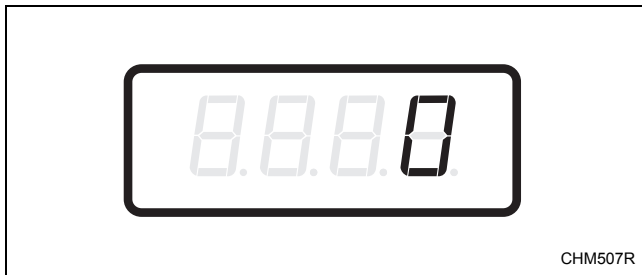

Figure 31
2. When “CnP2” appears in the display, press the START (enter) keypad. There are five digits in the Cycle Modifier Heavy Vend Price Adder. The fifth digit will appear in the display and will flash for one (1) second on, one (1) second off. Refer to *Figure 31*.